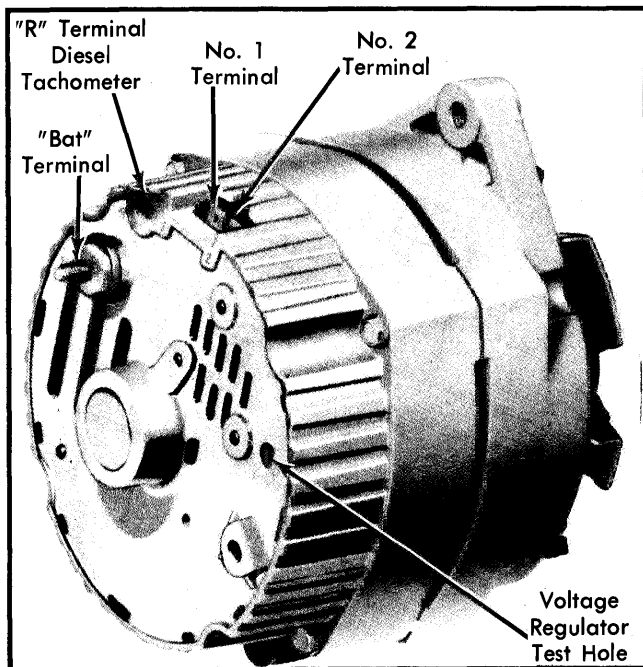

Fig. 3 Identification of Delcotron Terminal Locations (10 SI Alternator Shown)
1) With ignition switch at "ON" position, connect a voltmeter from alternator "BAT" terminal to ground. See Fig. 3. Then